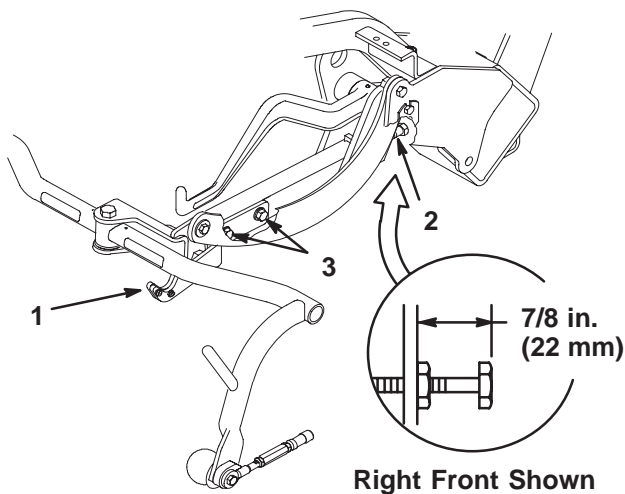

Figure 15
Check the transport height (Fig. 15) and adjust, if required, as follows:
2. Verify that the distance from the top of the carrier frame adjusting screw (Fig. 15) and the back of the carrier frame is 7/8 in. (22 mm).
3. Loosen the transport plate mounting screws (Fig. 15).
6. If the carrier frames are not at the same height, loosen the jam nut on the carrier frame adjusting screw (Fig. 15). Rotate the screw outward to raise and inward to lower. Tighten the jam nut after the proper height is obtained.